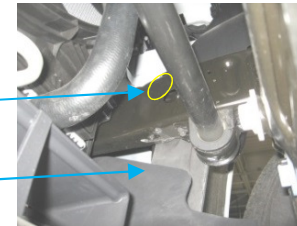

Figure 4
- Lower the Splash Guard** - Carefully pull the splash guard down to allow access to the existing access hole on the inside of vehicle frame. See figure 4.
- Reinstall the splash guard using the two (2) factory M10 bolts.